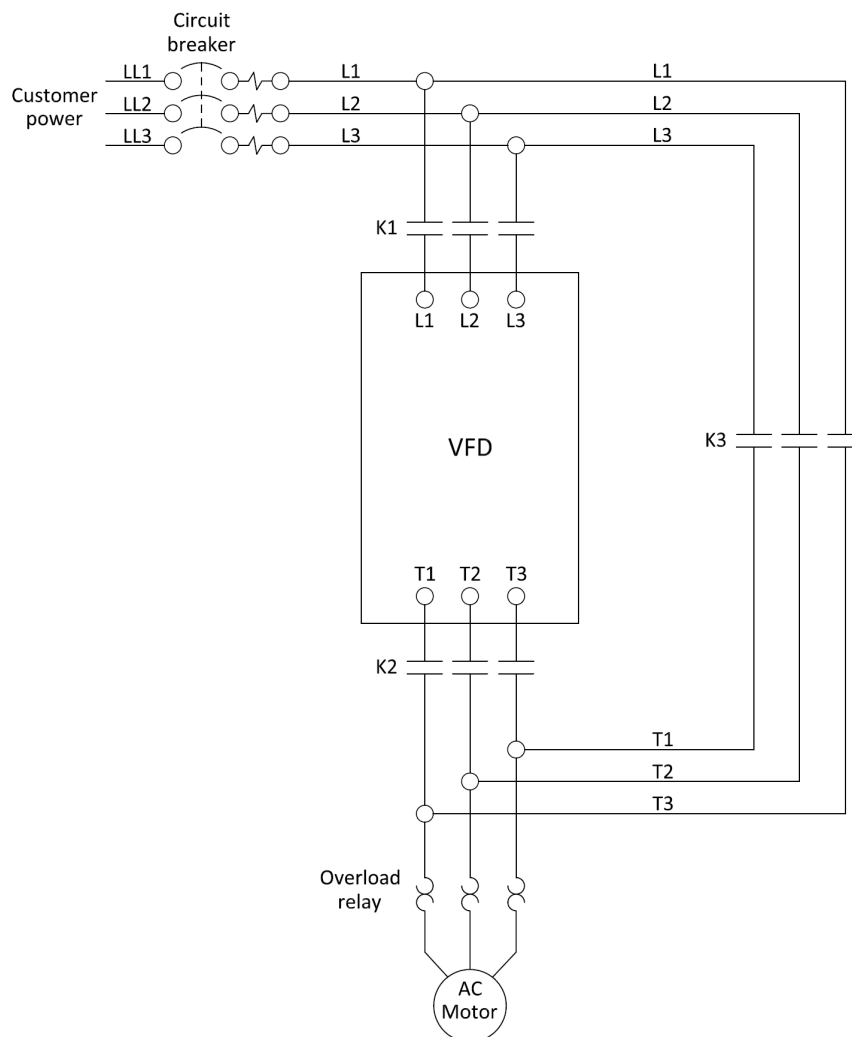

Figure 13: VFD Wiring for Single Fuel VFD Bypass
1. Wire the VFD and motor contactor contacts as shown in Figure 13.